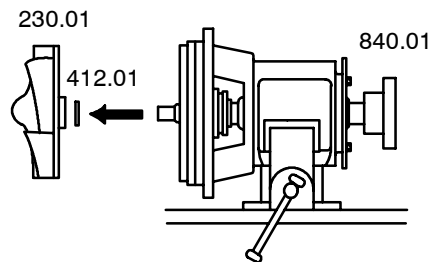

Fig. 4
- 1 Fasten the exchange unit firmly to a vice. Fig. 4.